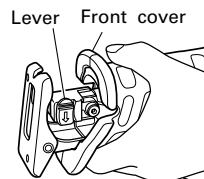

Fig. 1
- (1) Turn on and off the switching trigger several times so that the lever can jump out of the front cover completely. Thereafter, turn off the switch and unplug the power cord. (**Fig. 1**)
- (1) Turn on and off the switching trigger several times so that the lever can jump out of the front cover completely. Thereafter, turn off the switch and unplug the power cord. (Fig. 1)
- Do not remove the front cover (refer to **Fig. 1**). Be sure to hold the body from the top of the front cover.